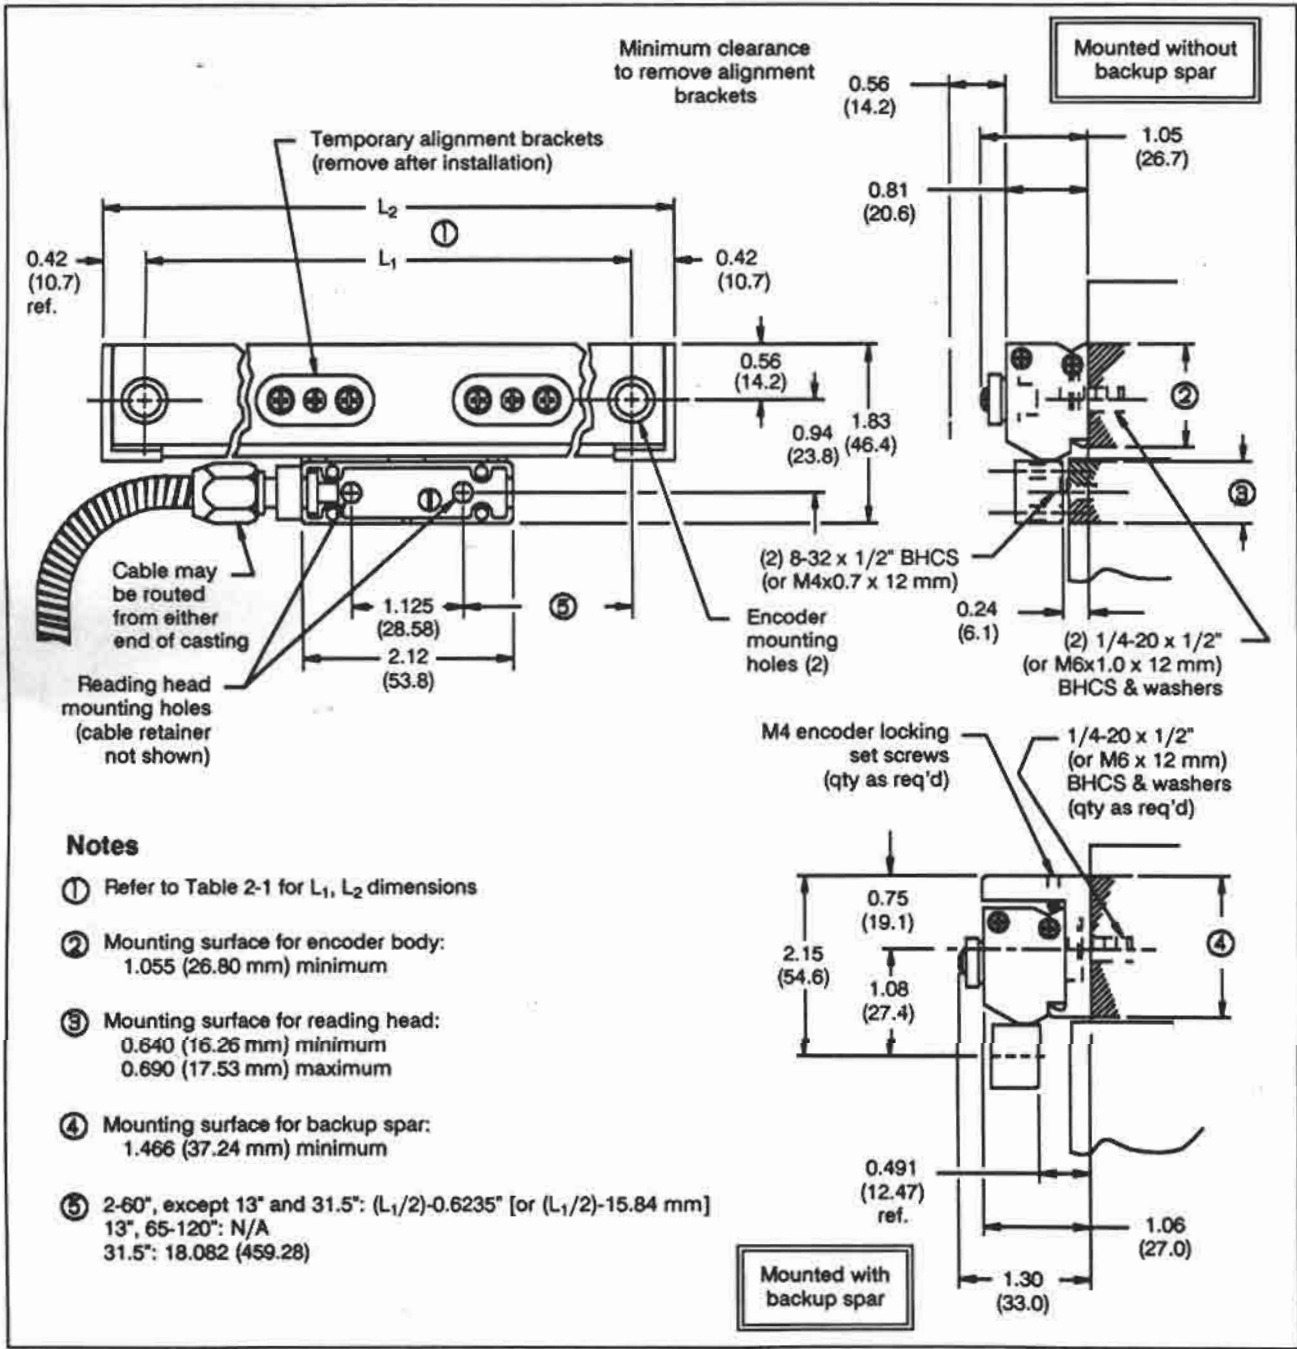

Figure 2-8. Mini-Scale or Mate System linear encoder assembly dimensions and mounting data (during installation)
- For end mounting hole/center support mountings, the encoder must be installed on a flat surface that runs the full length and width of the encoder (Figures 2-8, -9, -12, -13, Table 2-1, and Appendix D). A machined surface is preferred. The center support mounting surfaces must provide a minimum of 1.805" (45.85 mm) height and 0.500" (12.70 mm) width.
Refer to Figure 2-8. The upper side view illustrates a typical mill longitudinal encoder mounting. The encoder is mounted directly to a machined surface of the mill table (either the front or the back of the table). Here, the shape of the saddle (cross travel casting) provides just enough clearance for the reading head adjustment and mounting. The lower side view illustrates mounting directly to the same machined surface, but using a backup spar. In this case, the reading head casting is too far from the saddle, and a reading head mounting bracket is required.
Refer to Figures 2-8 through 2-10 and Table 2-1 for encoder and backup spar mounting dimensions. The illustrations also show the amount of clearance space that must be provided for the encoder, both during and following installation. This clearance will assure that brackets, machine tool handles, etc. will not interfere with the encoder after installation.
Most Mini-Scale and Mate System encoders less than 24" are mounted directly to a machined surface using the encoder end mounting holes (Figures 2-8 and 2-9). 24" to 60" encoders can be mounted directly to a machined surface using the end mounting holes and center support brackets (see "Center support installation").